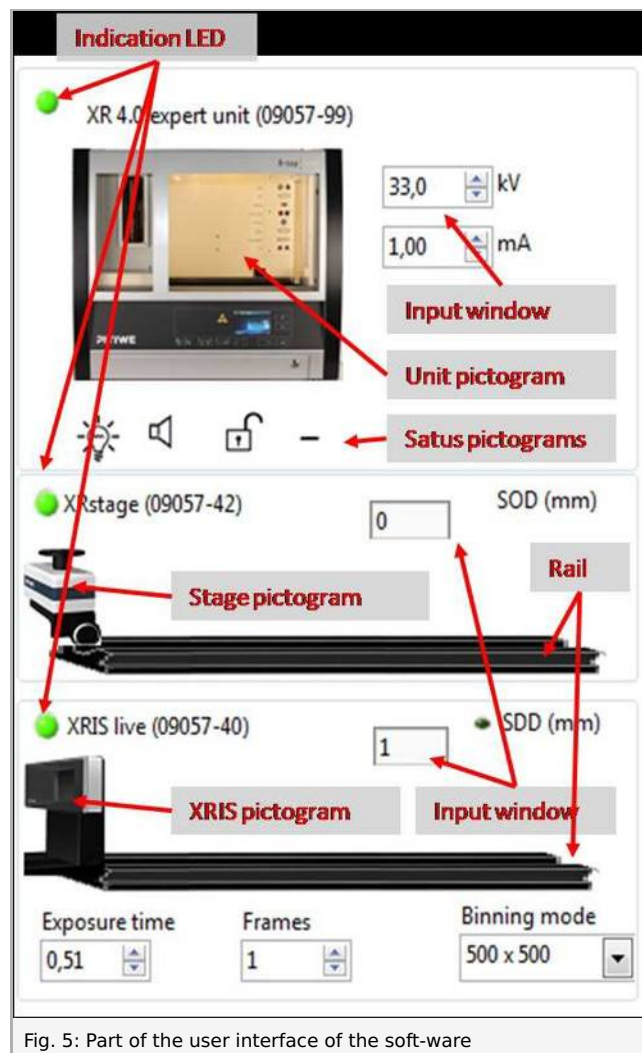

Fig. 5: Part of the user interface of the soft-ware
- Start the “measureCT” program. A virtual X-ray unit , rotation stage and Detector will be displayed on the screen. The green indication LED on the left of each components indicates that its presence has been de-tected (Fig. 5).
- You can change the High Voltage and current of the X-ray tube in the corresponding input windows or manually on the unit. (Fig. 5).
- When clicking on the unit pictogram additional infor-mation concerning the unit can be retrieved (Fig. 5).
- The status pictogram indicate the status of the unit and can also be used to control the unit such as switching on and off the light or the X-rays (Fig. 5).
- The position of the XRIS and XRstage can be ad-justed to its real position either by moving the XRIS pictogram or by filling in the correct value in the input window. (Fig. 5).